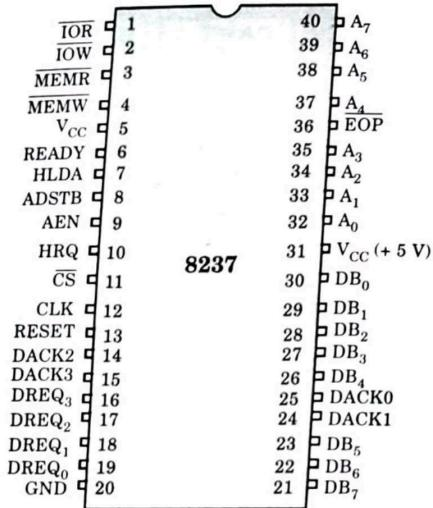

Fig. 5.1.1. Pin diagram of 8237.
4. **Pin diagram :** Pin diagram of 8237 DMA controller is shown in Fig. 5.1.1. The functional signal description in brief as follows :